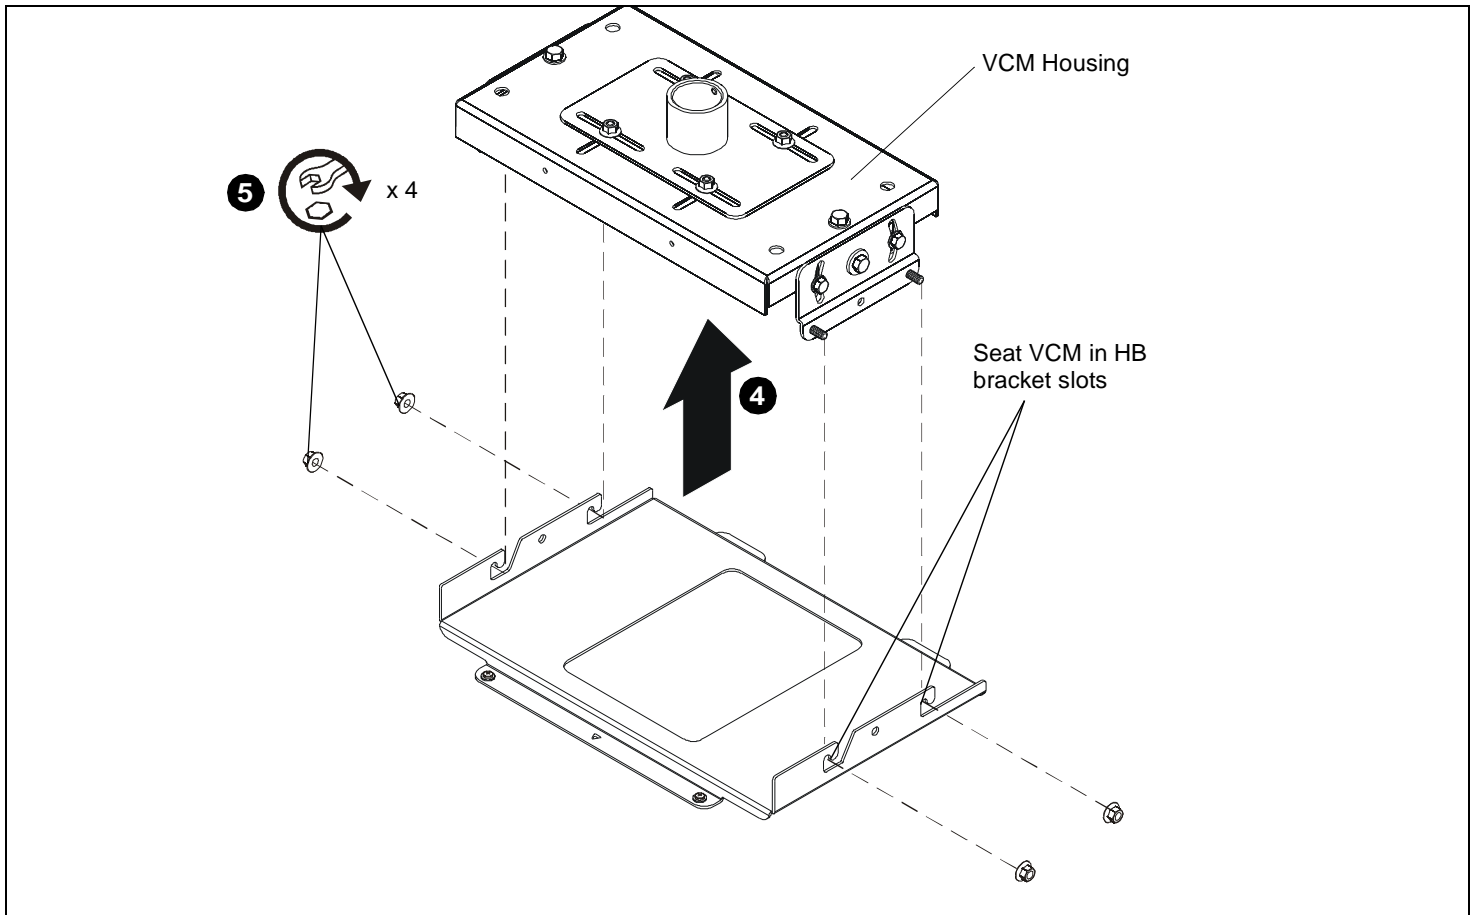

Figure 2
4. With help of assistants, lift the projector and install it to the four studs extending from the VCM housing. Ensure that the VCM housing is seated in slots on HB bracket. (See Figure 2)
5. Tighten the four 5/16" flange nuts. (See Figure 2)